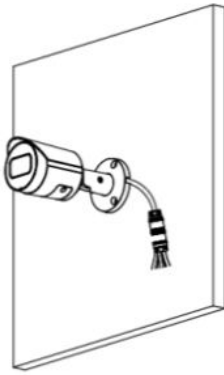

Figure 2-5
Step 5: Tighten down the mounting screws. See Figure 2-5.